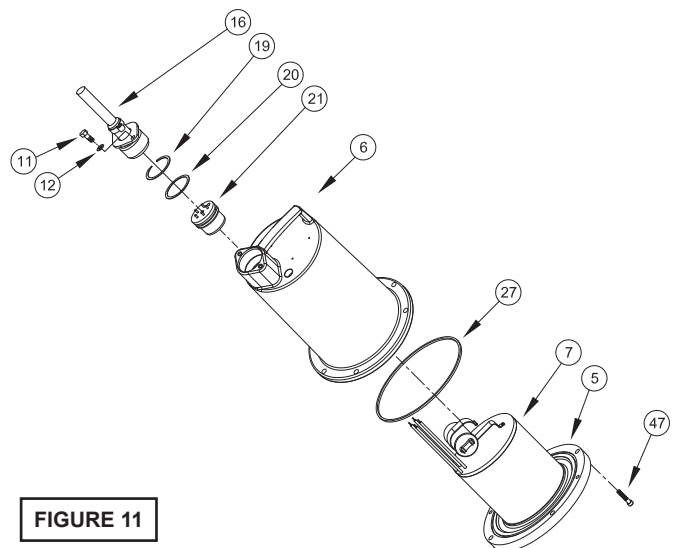

FIGURE 11
Repeat cord and terminal block removal procedure for any control cords (56) if equipped. Remove socket head screws (47). Vertically lift the motor housing (6) from seal plate (5) by lifting handle (13). Inspect square ring (27) for damage or cuts. Remove the motor bolts and lift motor stator from seal plate (5). Disconnect capacitor leads from capacitor (9, single phase units). Examine bearing (25) and replace if required. If replacement is required, remove bearing (25) from motor shaft using a wheel puller or arbor press, see Figure 11.